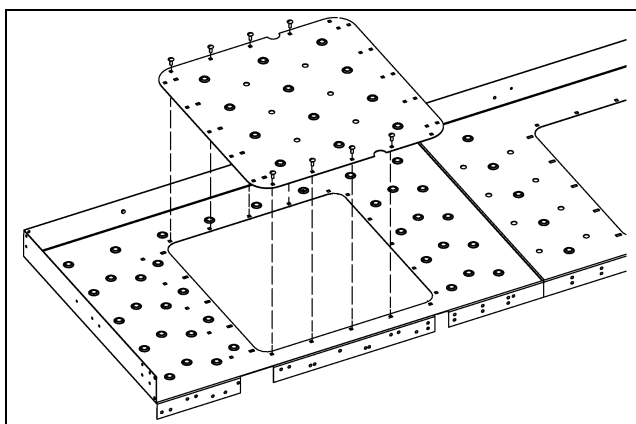

Figure 8F Hatch at Up-Leg End
5. Attach the hatch cover plate to Deck A using (8) eight 3/8" x 1" carriage bolts (S-3585) with flange nuts (S-10028) and torque to 30 ft/lbs. (See Figure 8F.)